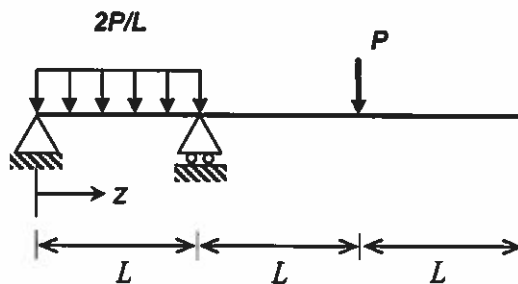

Figure 4a
- (a) Figure 4a shows a simply supported beam which projects beyond the right-hand support. The beam is subjected to a uniformly distributed load over  $0 < z < L$  and a point load at  $z = 2L$ .